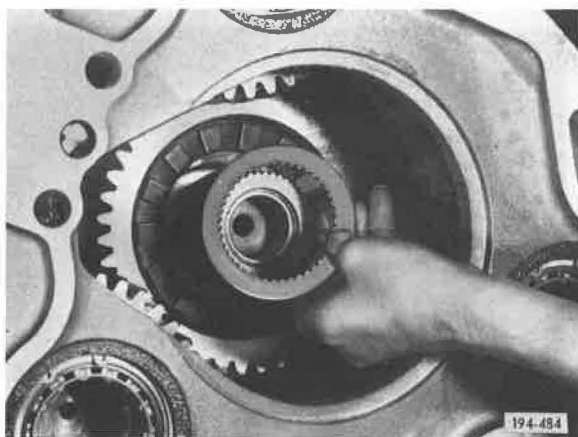

Figure 66. Removing Thrust Washer (TRTXL107)
8. Remove rear compound mainshaft Lo/Hi range gear front thrust washer. See Figure 66 for TRTXL107 and Figure 67 for TRTXL1070.